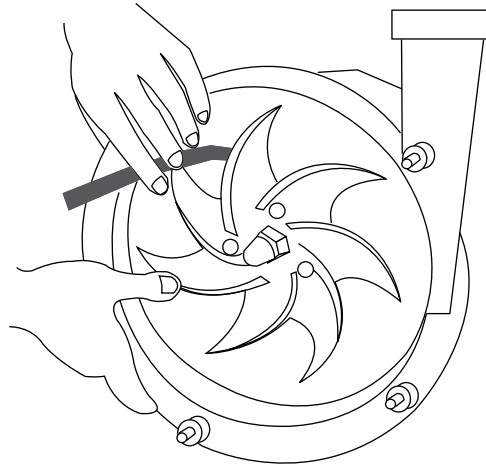

Fig. 30 Impeller-casing clearance
1. Measure the clearance between the impeller and the casing using a leaf feeler gauge (Fig. 30, "Impeller-casing clearance," page 19).